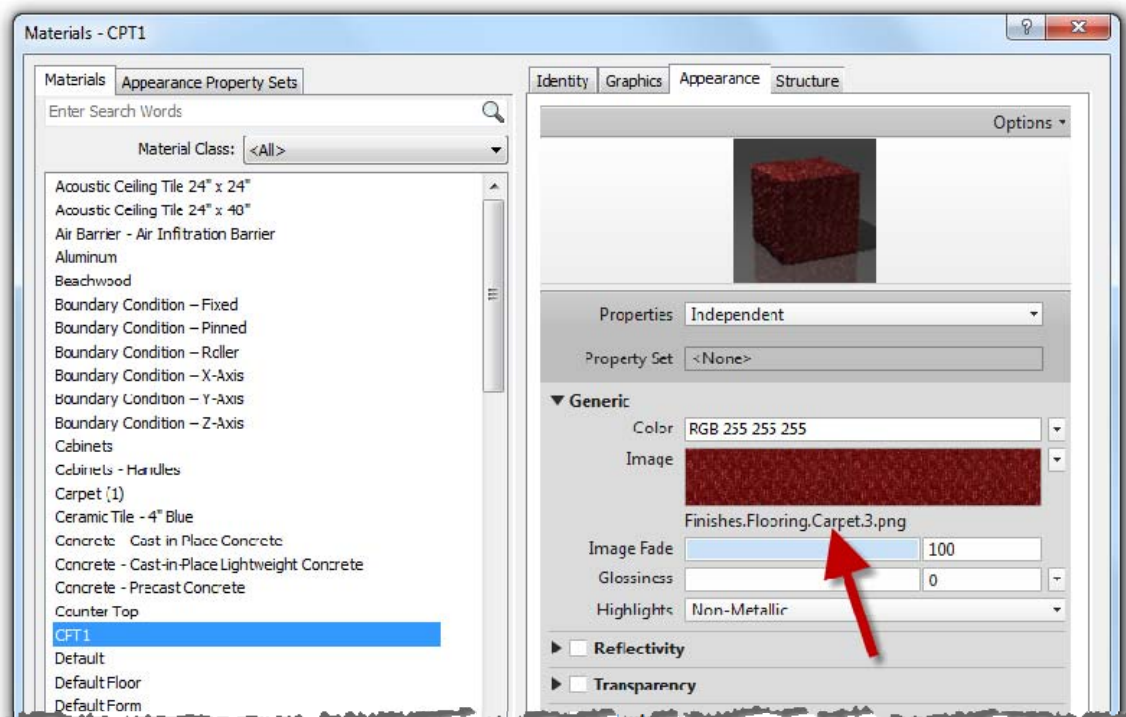

FIGURE 4-3.9 Keynotes selection dialog
Notice, on the *Appearance* tab (Figure 4-3.9), that a JPG raster image is assigned to this material. You will download an image for the carpet mfr. website and then edit your *Material* to use this new image. Keep in mind that anyone who might work on the project needs access to the image file location. So, in an office environment, you would not want to save this file to your local hard drive.
18. Back in Revit, on the *Appearance* tab, click on the file name pointed out in Figure 4-3.9.